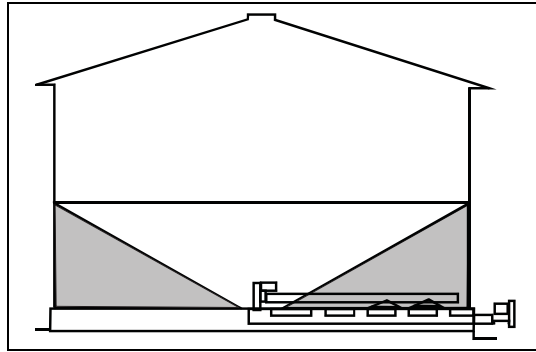
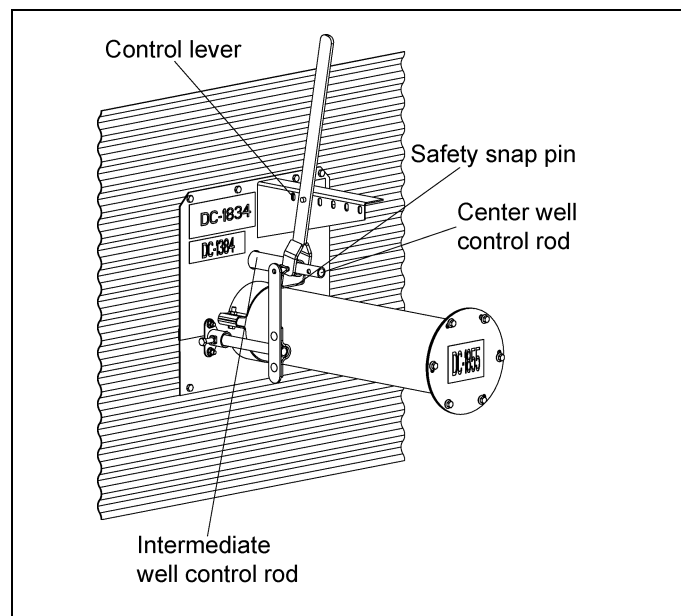

Figure 5D
Figure 5E
5. When grain flow stops from the center well, close the center well gate. Insert the safety snap pin through the control lever and both the intermediate and center well control rods as Figure 5E. The remaining grain should look similar to Figure 5D.
5. When grain flow stops from the center well, close the center well gate. Insert the intermediate well bolt through the intermediate well control rod and the center well control rod. Remaining grain should look like Figure 5D on Page 39.